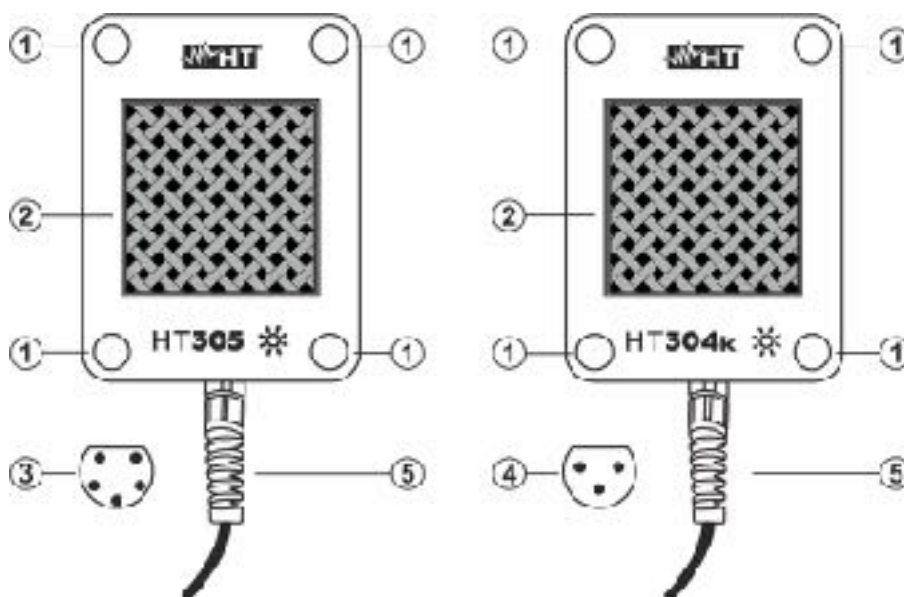

Fig. 1 Accessory description
4. Connect the connection cable's connector (**5 poles** for **HT305** or **4 poles** for **HT304k** – see Fig.1 – parts 3 and 4) to the remote unit SOLAR03 (HT305) or to the remote unit SOLAR-02 or to Master instruments with 3-pole HT connector (HT304k).